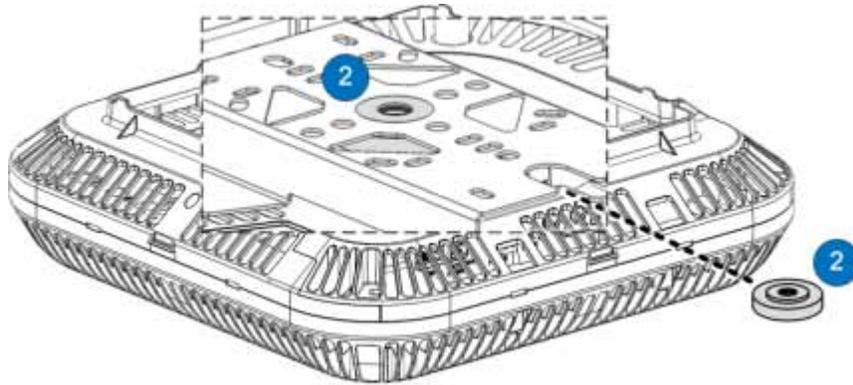

Figure 5-60. Inserting Spacer into RAU Mounting Bracket
7. Slide the Spacer (Item 2) in through the RAU mounting bracket and insert into bracket middle hole. Refer to Figure 5-60.